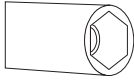

Figure 5
1. Please use driver with special head for removed and install nozzle as. (figure 5)